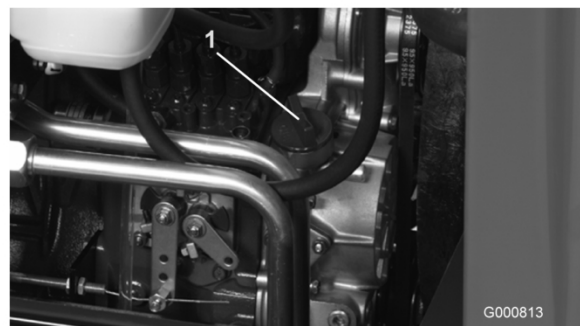

Figure 18
3. If oil level is low, remove filler cap (Figure 18) and add oil until level reaches FULL mark on dipstick. Do not overfill.